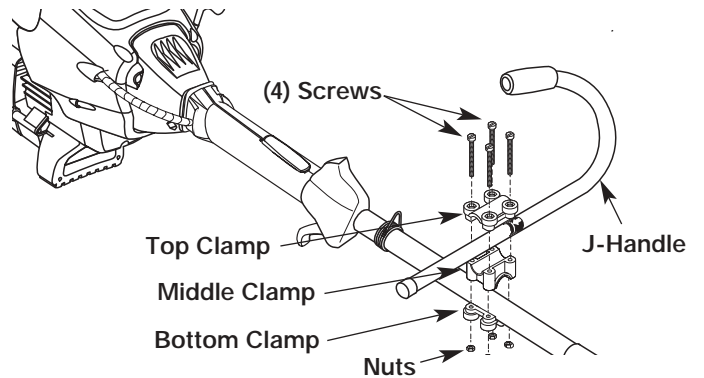

Fig. 3
1. Place the J-handle between the top and middle clamp pieces (Fig. 3).